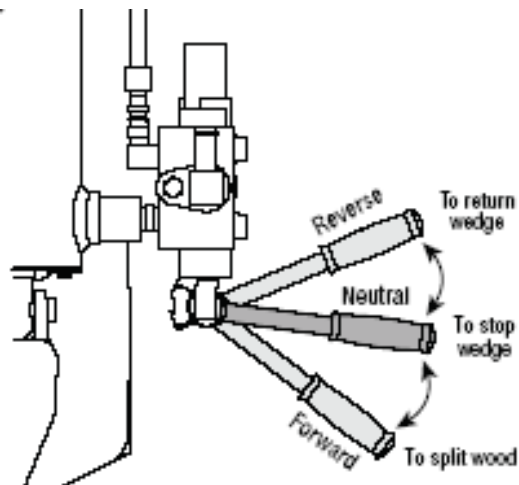

Figure 13
- Operate the log splitter only when standing in the safe operating zone by the control lever (Figure 13).